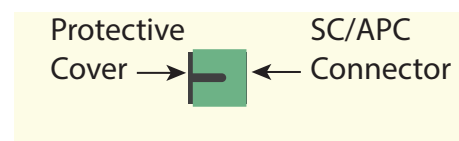

Figure 3. SC/APC Protective Cover
1. Refer to Figure 3 and pull the Protective Cover from the SC/APC Connector.